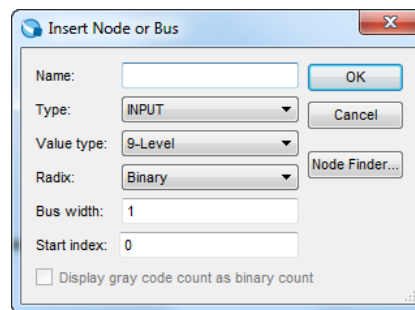
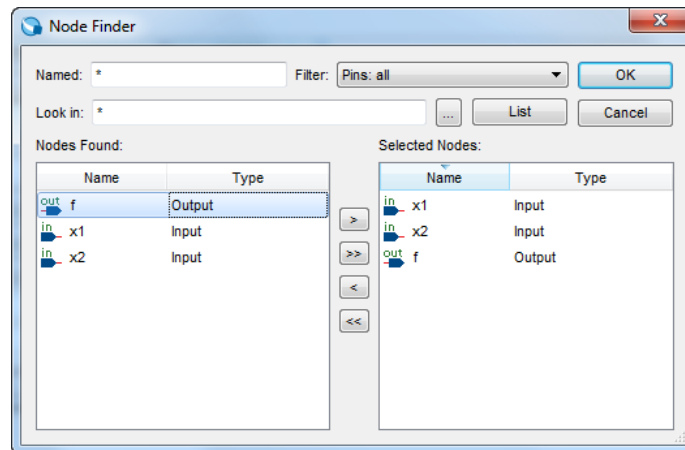
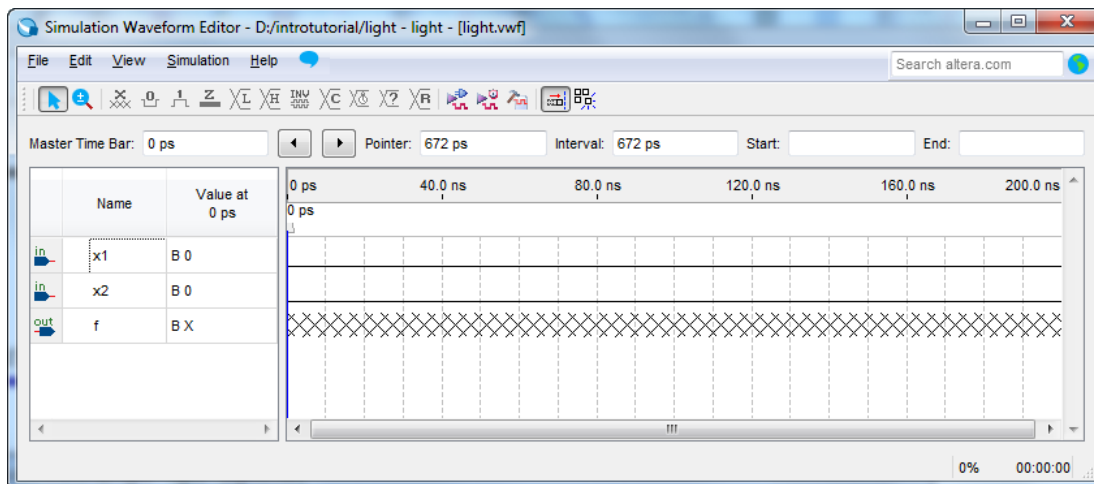

Figure 31. The Insert Node or Bus dialogue.
Figure 32. Selecting nodes to insert into the Waveform Editor.
Figure 33. The nodes needed for simulation.
- Next, we want to include the input and output nodes of the circuit to be simulated. Click **Edit > Insert > Insert Node or Bus** to open the window in Figure 31. It is possible to type the name of a signal (pin) into the Name box, or use the Node Finder to search your project for the signals. Click on the button labeled **Node Finder** to open the window in Figure 32. The Node Finder utility has a filter used to indicate what type of nodes are to be found. Since we are interested in input and output pins, set the filter to **Pins: all**. Click the **List** button to find the input and output nodes as indicated on the left side of the figure.
Click on the *x1* signal in the Nodes Found box in Figure 32, and then click the > sign to add it to the Selected Nodes box on the right side of the figure. Do the same for *x2* and *f*. Click OK to close the Node Finder window, and then click OK in the window of Figure 31. This leaves a fully displayed Waveform Editor window, as shown in Figure 33. If you did not select the nodes in the same order as displayed in Figure 33, it is possible to rearrange them. To move a waveform up or down in the Waveform Editor window, click within the node's row (i.e. on its name, icon, or value) and drag it up or down in the Waveform Editor.